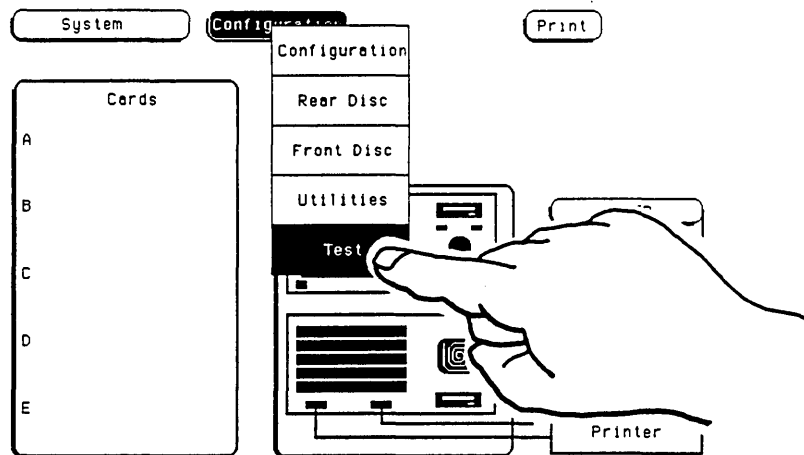

Figure 4-2. Accessing the Test System
2. Touch **Configuration** field and the **Test** field from the pop-up menu (see figure 4-2).